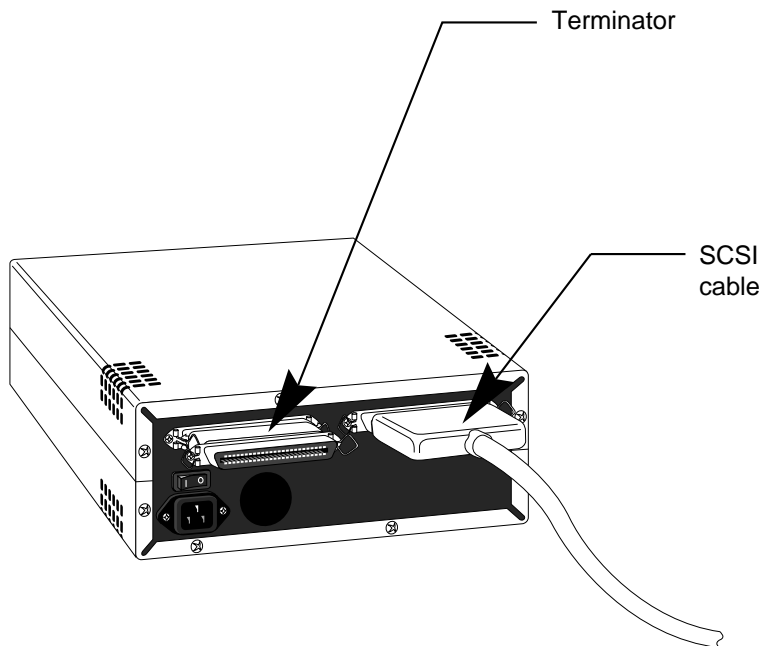

Figure 4-9 SCSI Cable and Terminator on the Back of the SCSI Drive
- Connect the other end of the SCSI cable to one of the SCSI connectors on the back of the device and secure the clips on each side of the connector, as shown in Figure 4-9.